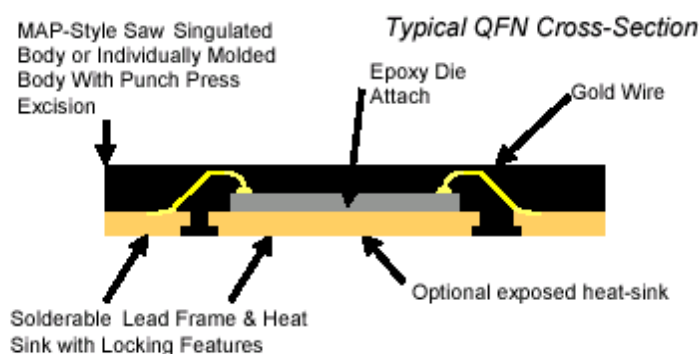
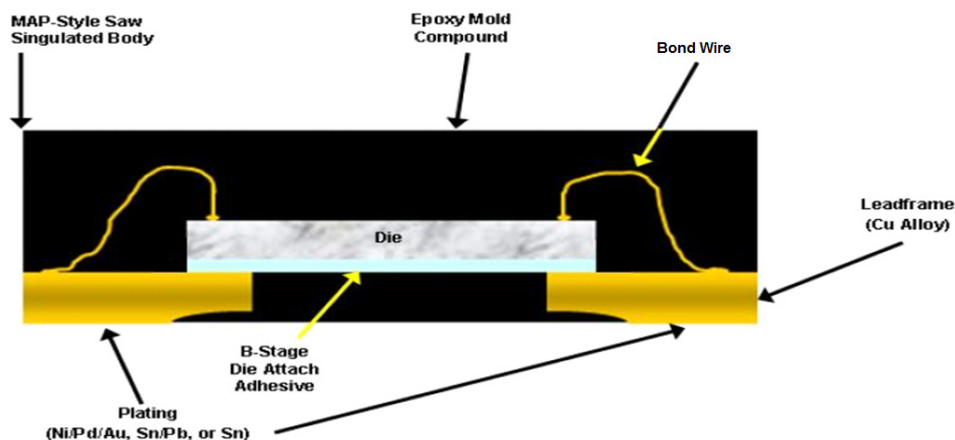

Figure 2. Sawn DFN/QFN (Cross-Section View)
Figure 4. Sawn DFN - Chip-on-Lead (CoL, Cross-Section View)
- Figure 2 shows a cross-section of a typical sawn DFN / QFN, a lead-frame-based package with wire-bonding technology.
- Figure 4 shows a sawn DFN Chip-on-Lead.
The cross-sectional profiles for each are different and are shown in Figure 2 to Figure 4. In this section, both styles of QFN are discussed. In subsequent sections, guidelines or information related to a specific style of DFN / QFN is stated as such; otherwise, the material applies to both styles.